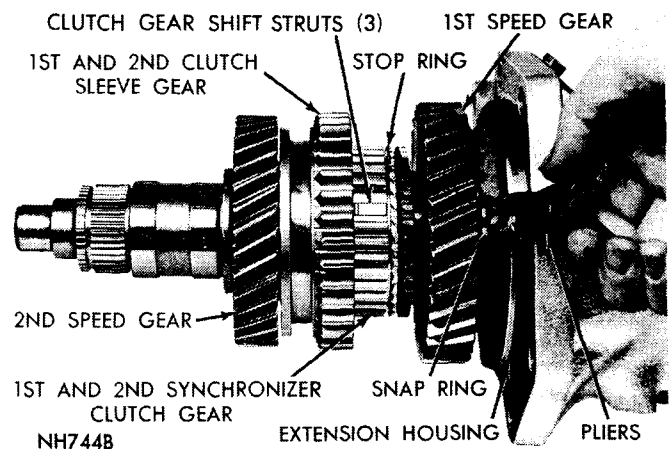
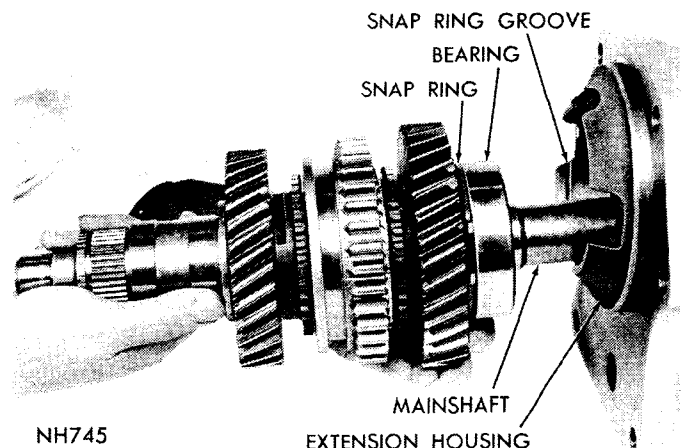

Fig. 17—Removing or Installing Mainshaft Bearing Snap Ring
Fig. 18—Removing or Installing Mainshaft
(14) Using a long nose pliers, compress snap ring that retains mainshaft ball bearing in extension housing (Fig. 17).
(15) Holding snap ring compressed, pull mainshaft assembly and bearing out of extension housing (Fig. 18).
(6) Install partially assembled mainshaft into extension housing far enough to engage bearing retaining ring in slot in extension housing (Fig. 18). Compress ring with pliers so that mainshaft ball bearing can move in and bottom against its thrust shoulder in extension housing. Release ring and seat it all around its groove in extension housing (Fig. 17).